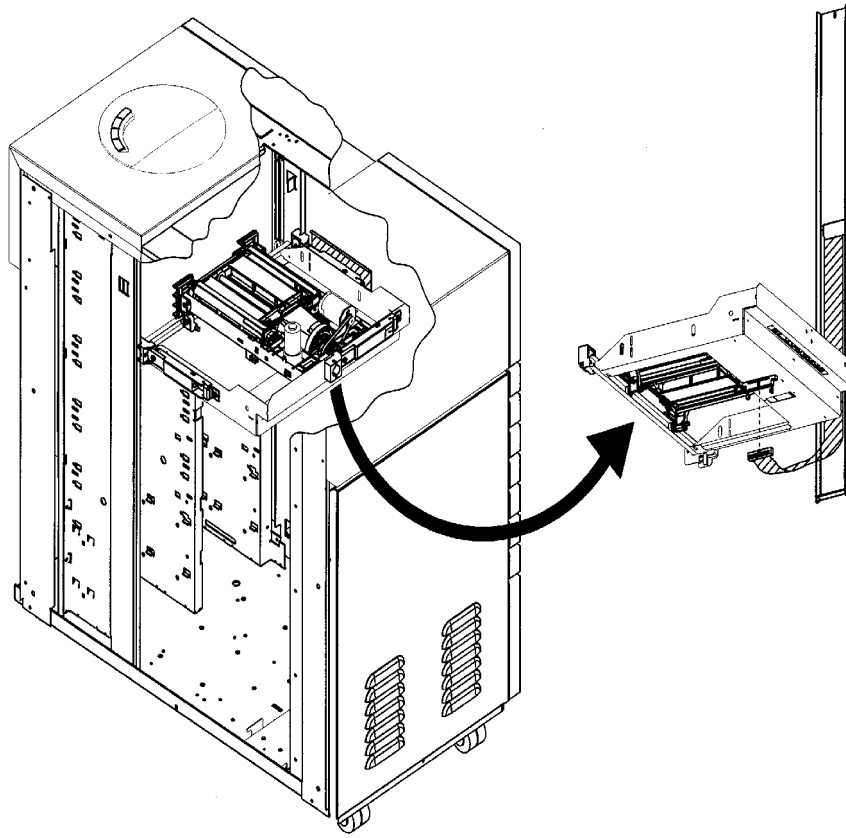

Figure 70: Disconnecting the Vertical Umbilical Cable From the Translate Frame
6. Disconnect the umbilical cable on the underside of the translate frame (see Figure 70).